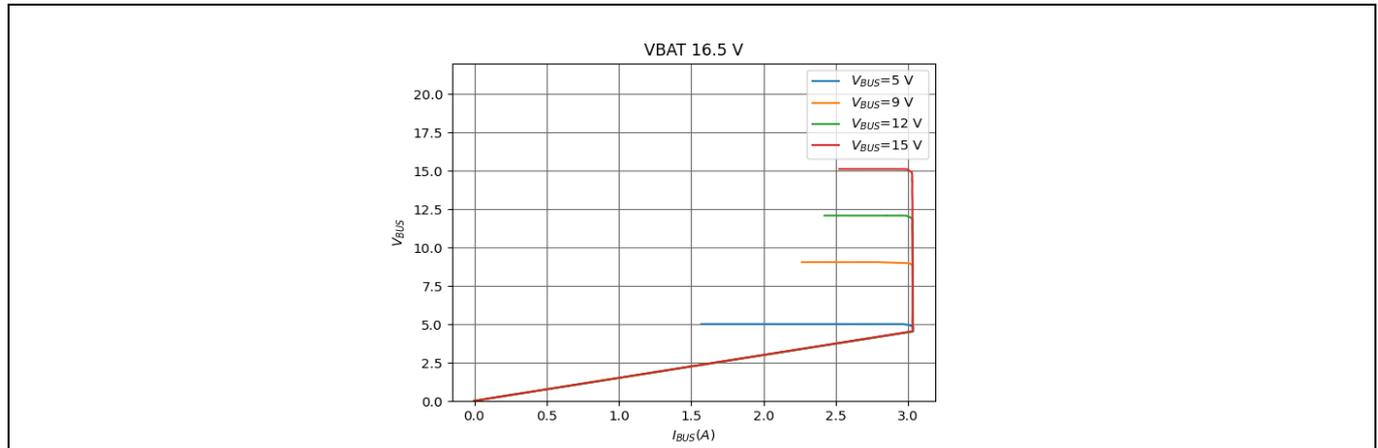
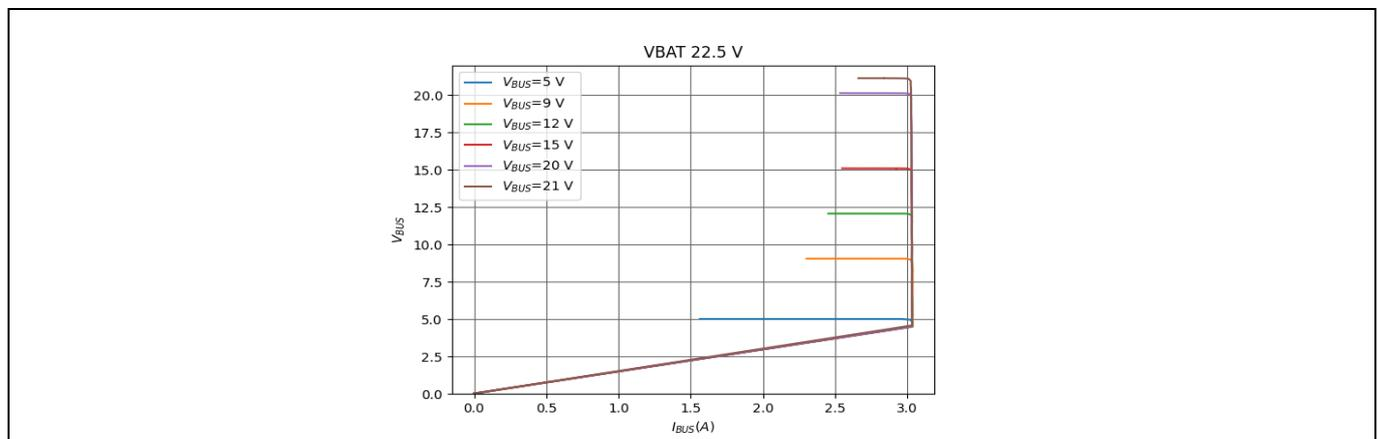
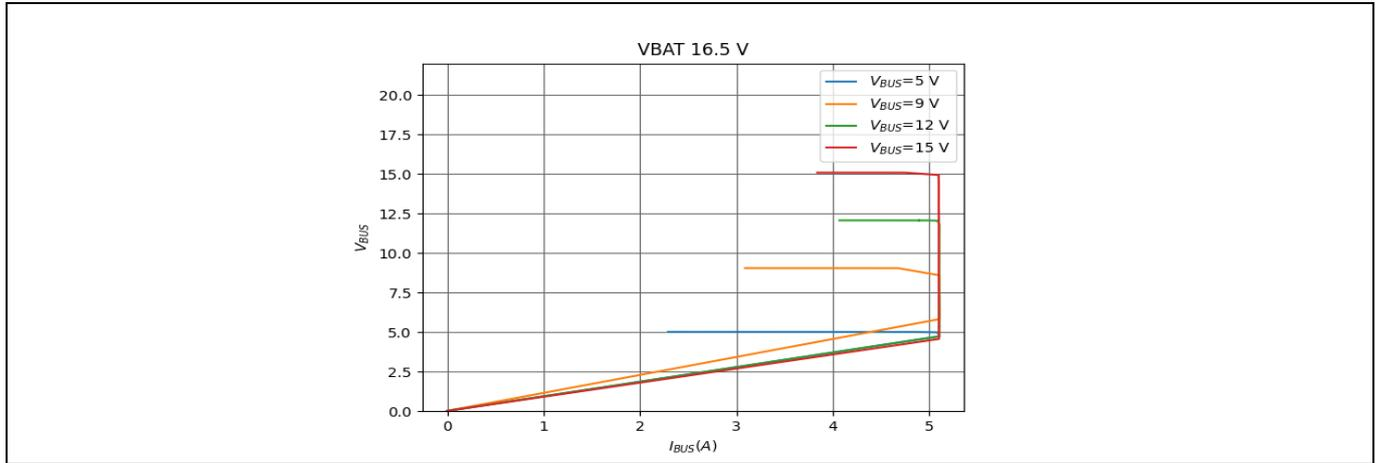
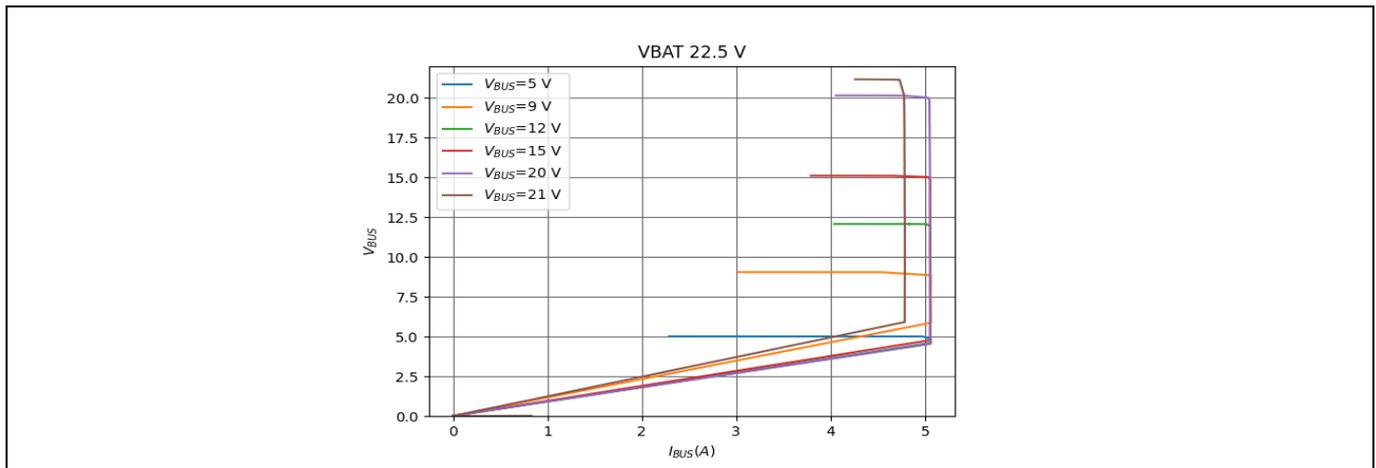

Figure 13 CC regulation curve at 16.5 V_{DC} input and 3 A output current
Figure 14 CC regulation curve at 22.5 V_{DC} input and 3 A output current
Figure 15 CC regulation curve at 16.5 V_{DC} input and 5 A (full load) output current
Figure 16 CC regulation curve at 22.5 V_{DC} input and 5 A (full load) output current
Output constant current (CC) regulation of port measured at 3 A and 5 A output currents are shown in Figure 13, Figure 14, Figure 15, and Figure 16.